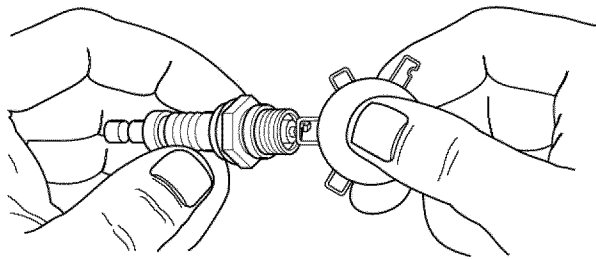

Figure 4-4. Spark Plug Gap
4. Set the new spark plug's gap to 0.028-0.031 in (0.70-0.80 mm). See Figure 4-4.